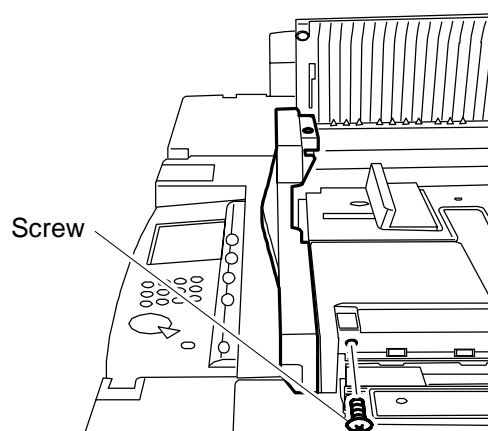

Fig. 3
- 2) Remove the 1 screw from the right side of the ADF. (Fig. 3)